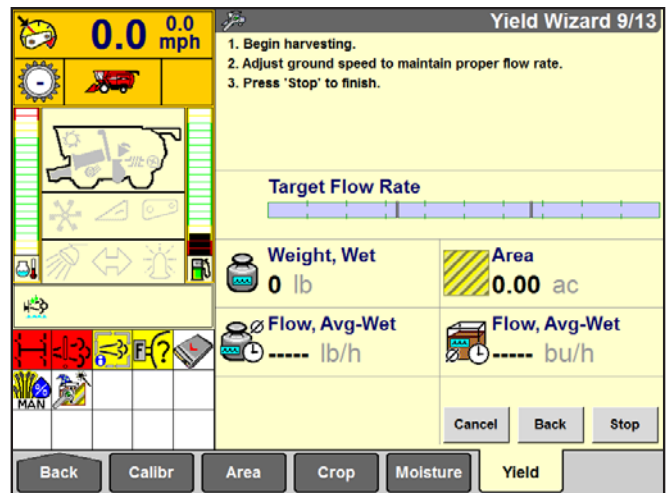

Figure 25.3
- Operator can choose to apply Actual values immediately, or at a later time (see figure 25.3)